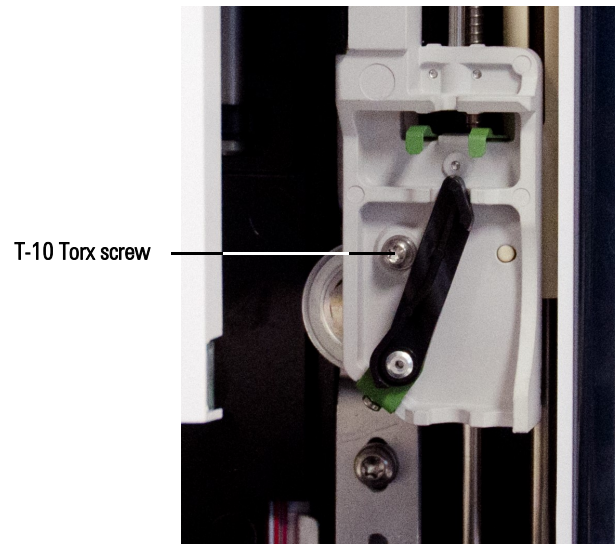

Figure 67 Remove the T-10 Torx screw
- 9 Completely loosen and remove the T-10 Torx screw above the syringe latch (Figure 67).